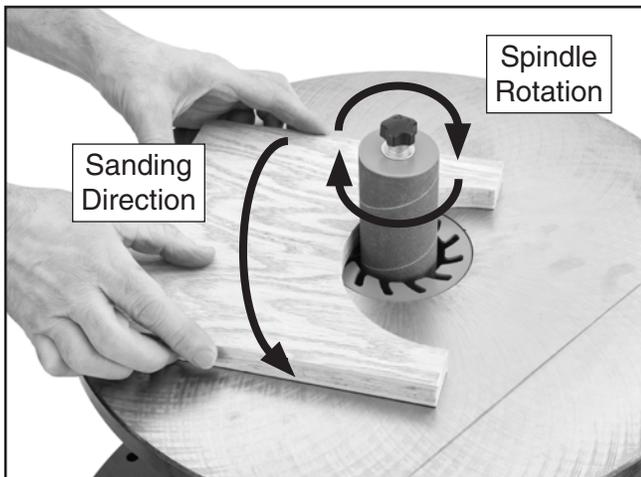

Figure 15. Example of sanding a workpiece.
3. Use both hands to maintain control of workpiece, and guide it against rotation of spindle, as shown in **Figure 15**. **DO NOT** force workpiece against sanding sleeve. Allow the machine to do the work.